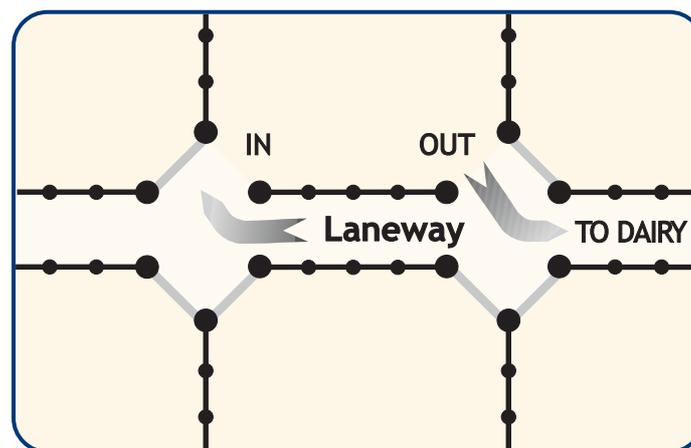

Figure 3.1: Open V gateways with access paths.
- Provide two access points to the paddock using V gates (double gates) angled at 45° to the lane (see Figure 3.1).